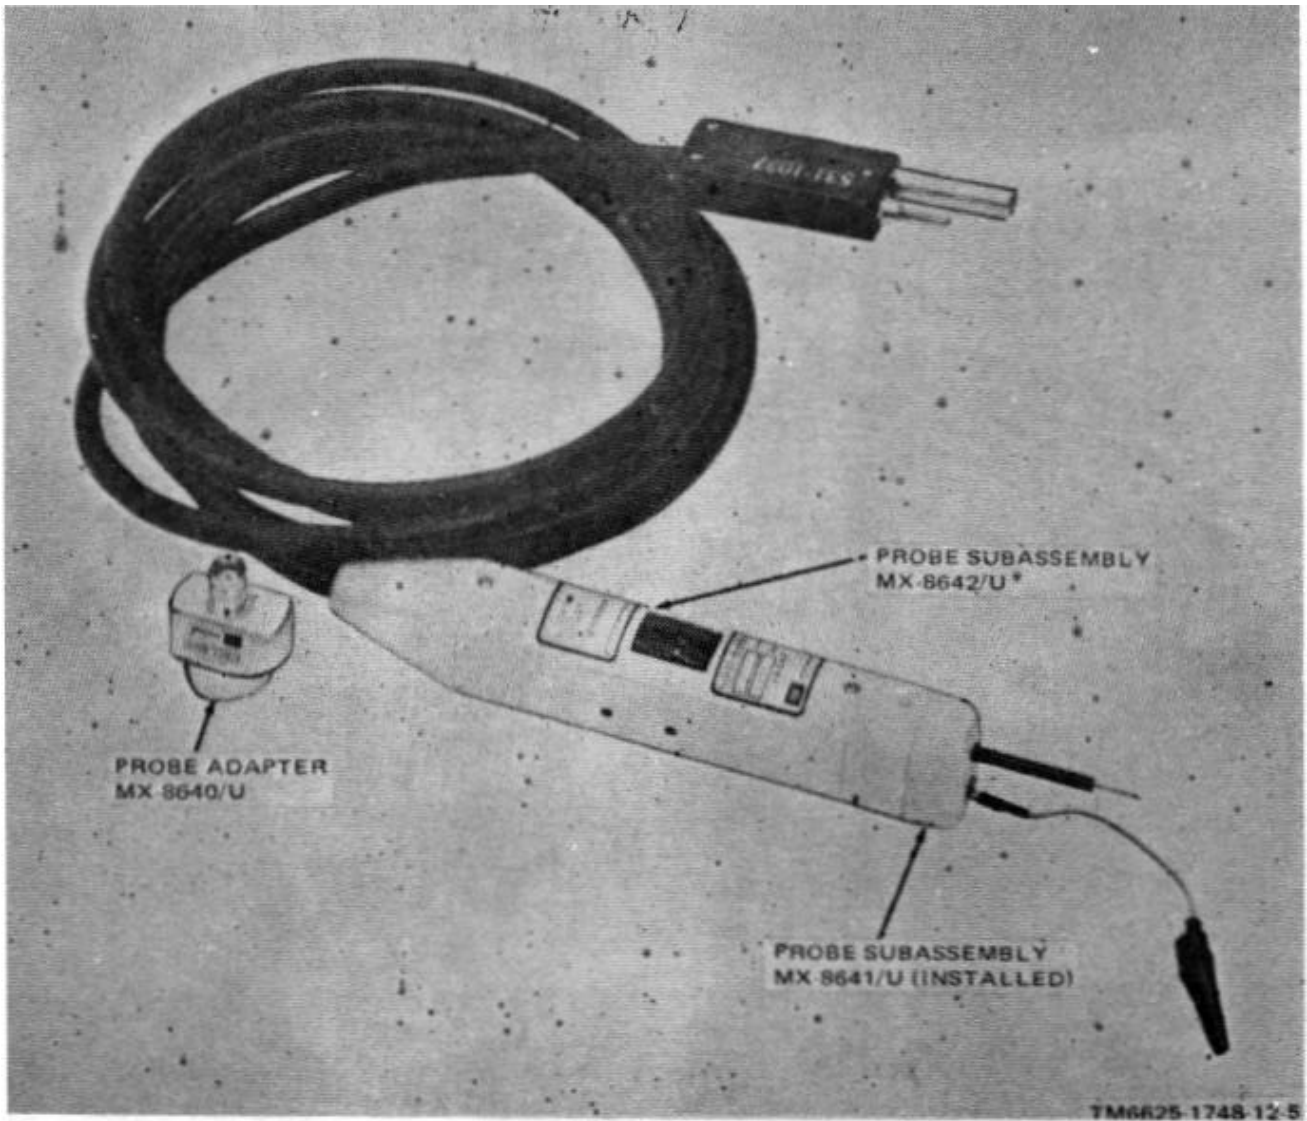

Figure 1-5. Probe and cable assembly and connector heads.
b. Probe. The MX-8642/U active, unbalanced probe subassembly (fig. 1-5), is used to measure low-level signals in the frequency range of 1 kHz to 33.5 MHz. A 0-db insertion loss is obtained when utilized either for bridging or terminating a 50-ohm line. The two switches on the small, hand-held probe provide for selection of either the BRIDGING or TERMINATING functions at either 50-ohm or 75-ohm impedance.
(1) *Probe Adaptor MX-8640/U.* This head is for BNC receptacles. It mates with BNC plugs such as UH-88/U, or equivalent (fig. 1-5).
(2) *Probe Subassembly MX-8641/U.* This head has a pin tip and a ground clip lead. It is useful for general test applications (fig. 1-5).